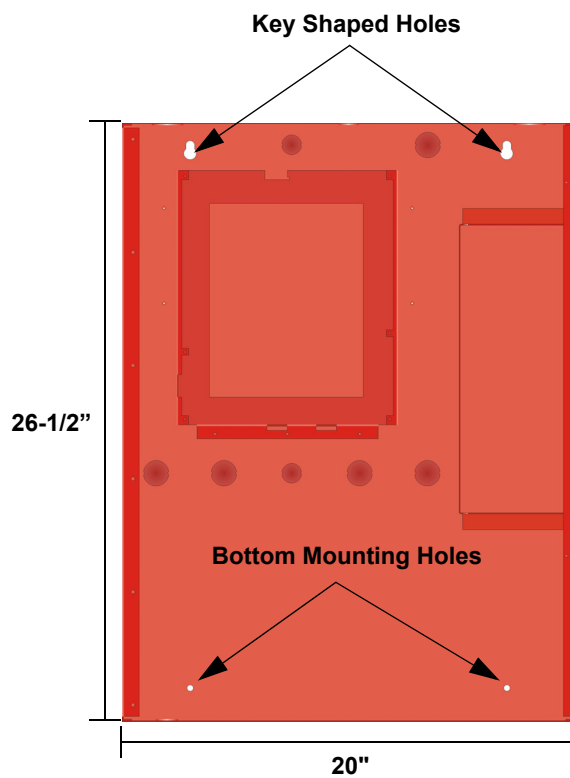

Figure 4-1 5820XL-EVS and EVS-RCU Cabinet Mounting Holes
1. Insert two screws level with each other, 14" apart for the top cabinet key shaped holes. See Figure 4-1.